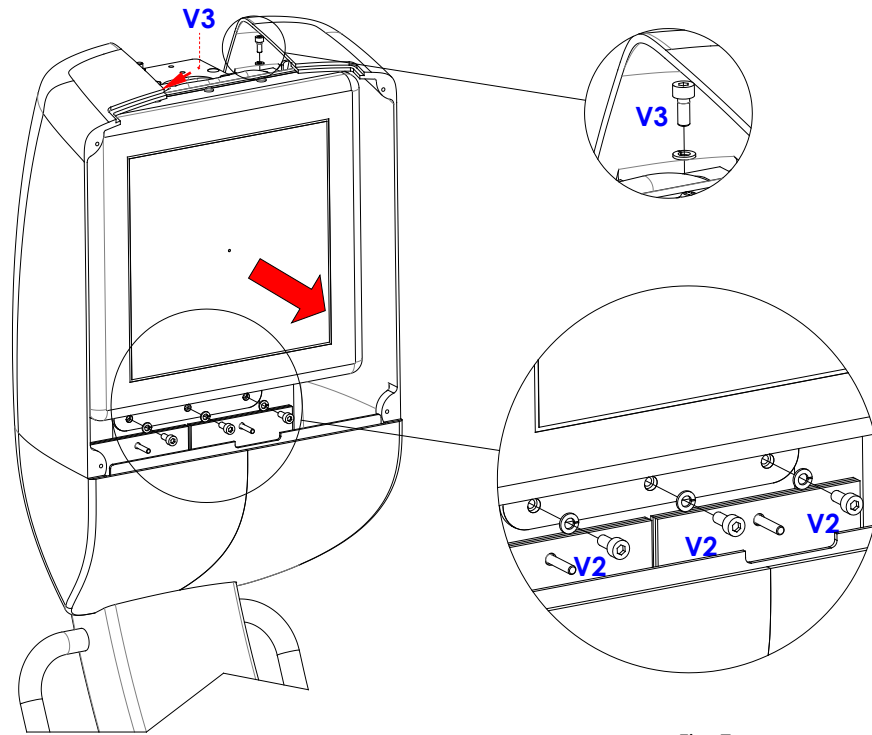
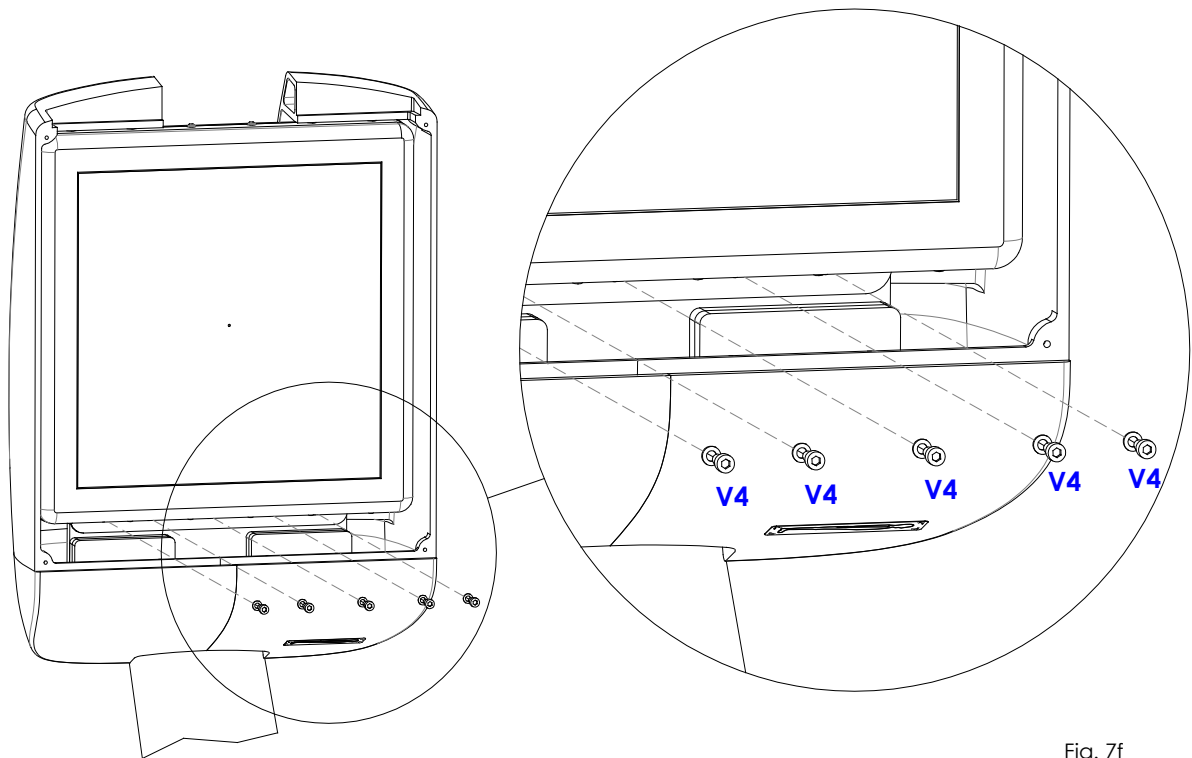

Fig. 7e
Fig. 7f
- For 21x21 FPD version: undo the 3 screws (V2) (Fig.7e) and the 2 screws (V3) (one on either side), together with their washers.
For 30x30 FPD version: undo the 5 screws (V4) (Fig.7f) and the 2 screws (V5) (one on either side), together with their washers.
- Remove the FPD and its plate of support as shown in Fig.7e/ Fig.7f. During this procedure, maintain the FPD in order to prevent accidental fallings.